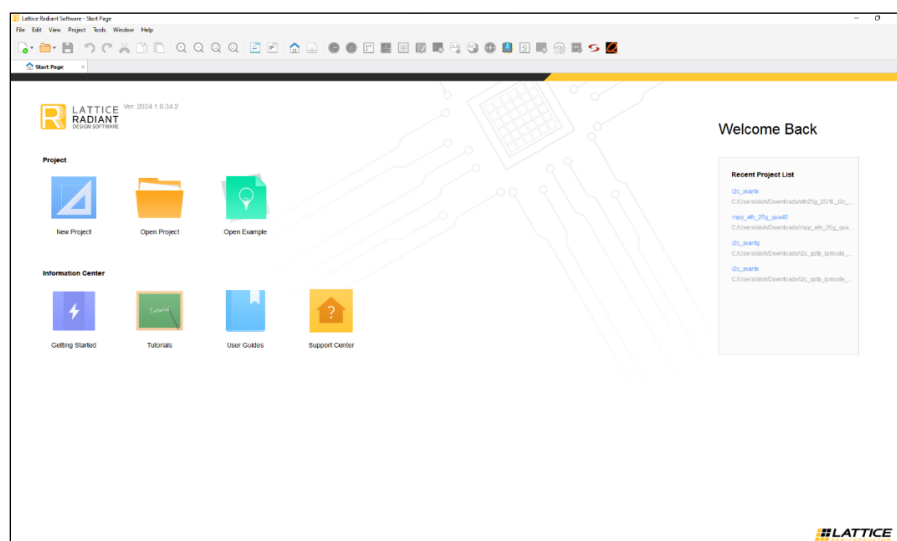

Figure 5.3. Lattice Radiant Software
1. Launch the Lattice Radiant software, as shown in Figure 5.3. Note that the project is compiled using the Lattice Radiant software version 2025.1.0.39.0.